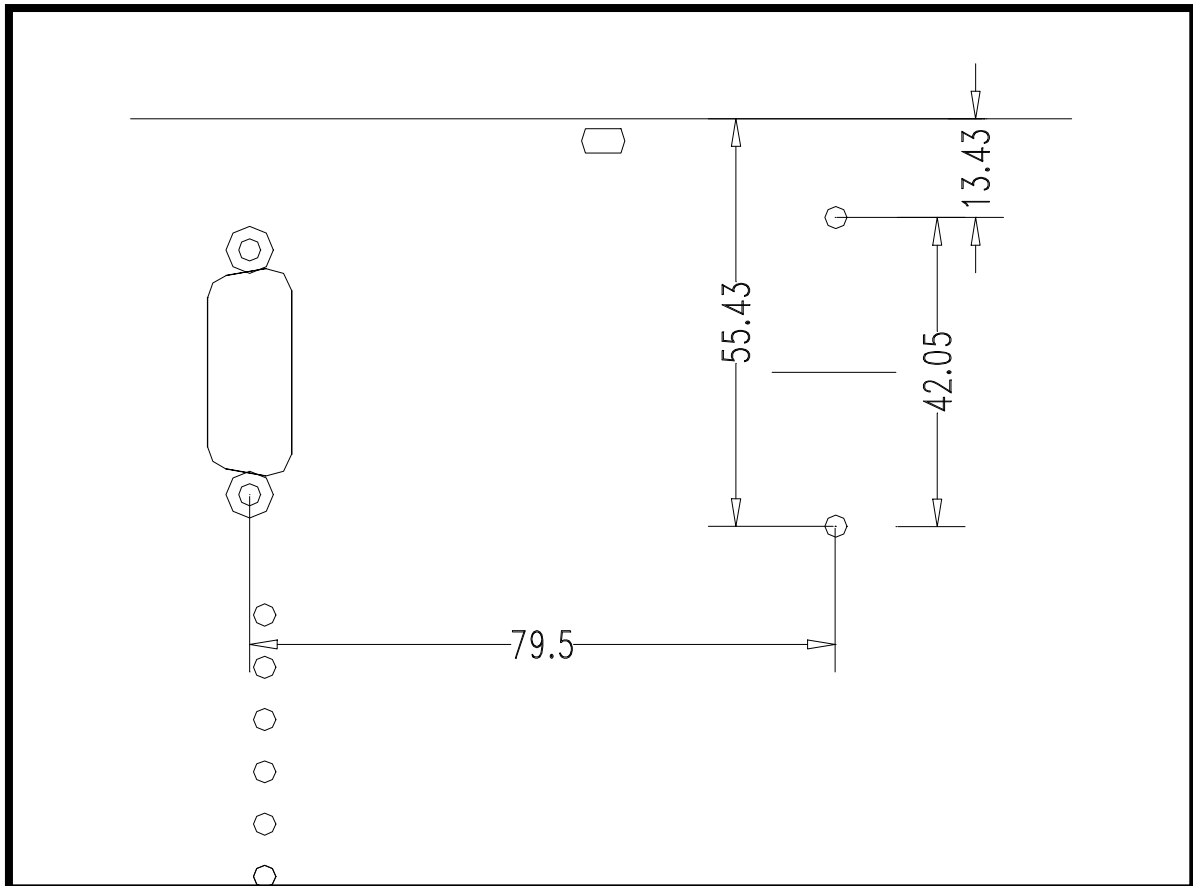

fig. 1
- A= vibration protected and additional holes at front panel, see **fig.1**